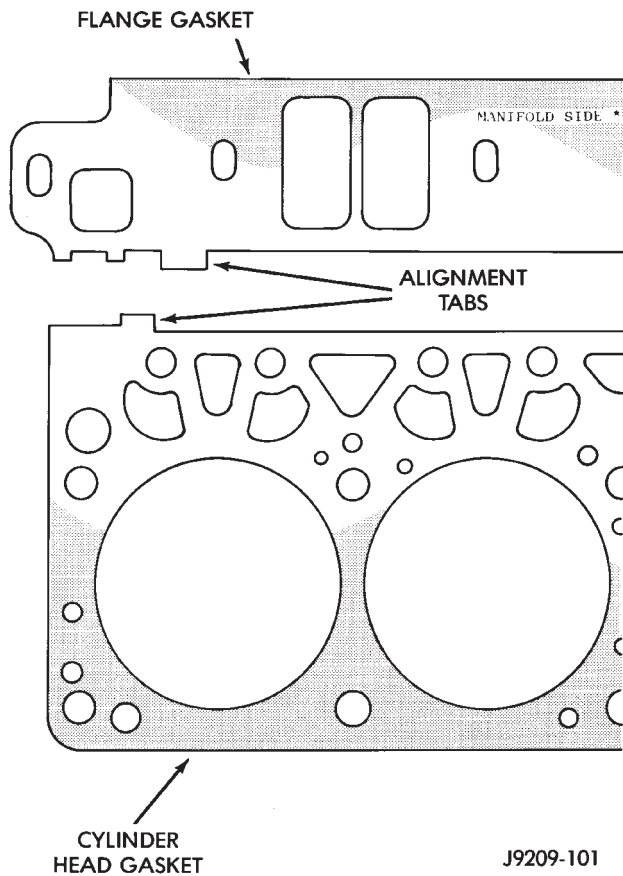
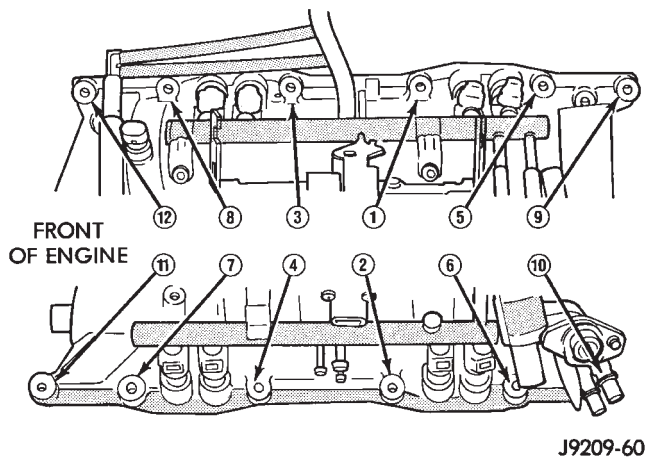

Fig. 10 Intake Manifold Flange Gasket Alignment
Fig. 11 Intake Manifold Bolt Tightening Sequence
(6) Install the flange gaskets. Ensure that the vertical port alignment tab is resting on the deck face of the block. Also the horizontal alignment tabs must be in position with the mating cylinder head gasket tabs (Fig. 10). The words MANIFOLD SIDE should be visible on the center of each flange gasket.
(7) Carefully lower intake manifold into position on the cylinder block and cylinder heads. Use the alignment dowels in the cross-over gaskets to position the intake manifold. After intake manifold is in place, inspect to make sure seals are in place.
(8) The following torque sequence duplicates the expected results of the automated assembly system (Fig. 11).
(9) Install closed crankcase ventilation and evaporation control systems.
(10) Install the coil wires.
(11) Connect the heat indicator sending unit wire.
(12) Connect the heater hoses and bypass hose.
(13) Install distributor cap and wires.